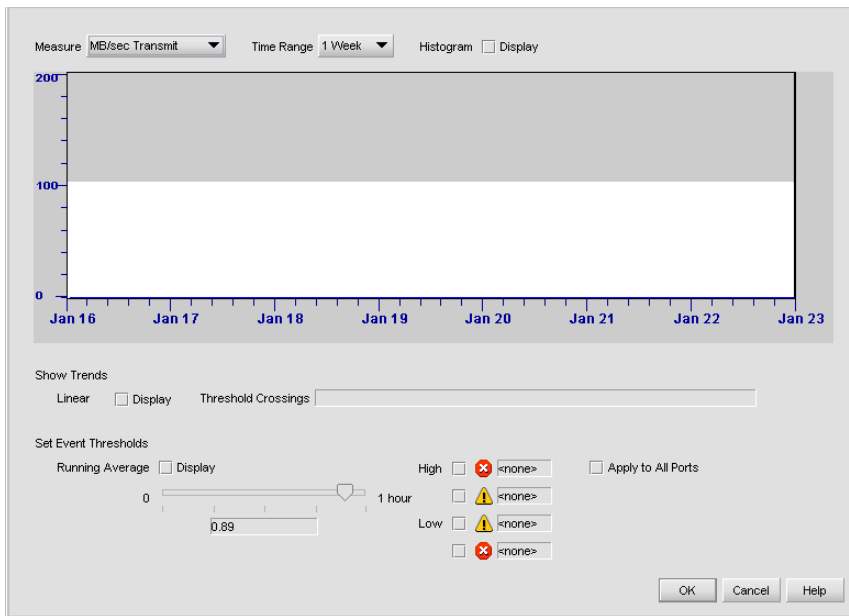

Figure 83 Port Performance Graph dialog box
2. Select a port row and click **History/Events** (or double-click a port row) to display the Port Performance Graph dialog box (Figure 83).